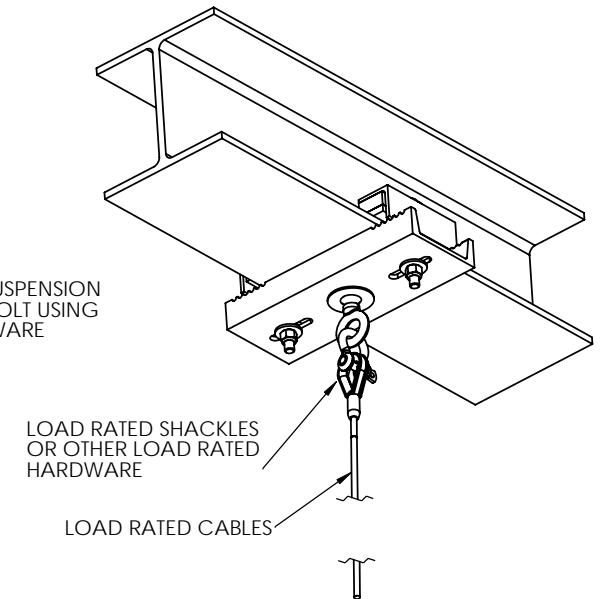

FIGURE 4
4. ATTACH SELECTED SUSPENSION CABLES TO THE EYEBOLT USING LOAD RATED HARDWARE (FIGURE 4)